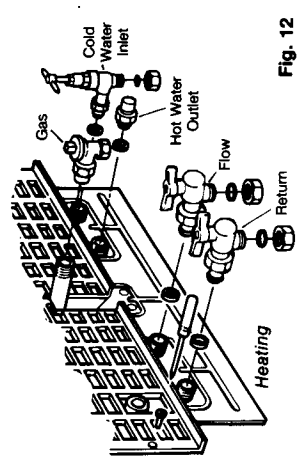

Fig. 12
**5.3.4** Loosely fit (hand tight) the valves and fittings using the washers supplied (Fig 12)
- 5.6.1** Figs 12 and 16 show the locations of the fittings.